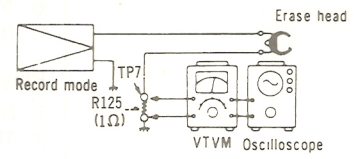
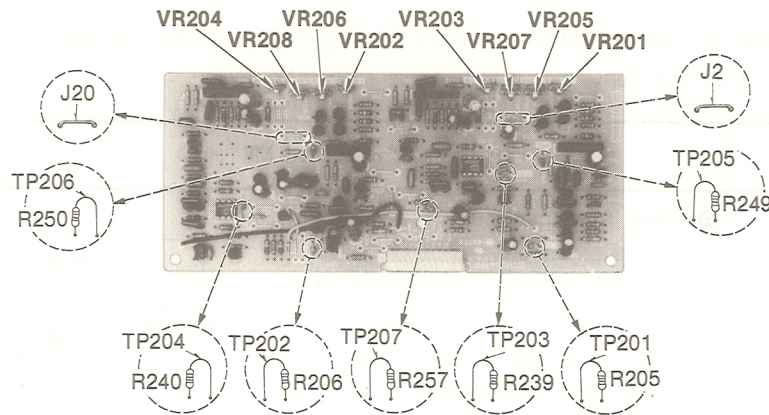

Fig. 11
Fig. 2
<p>F Erase current</p> <p>Condition:</p> <ul style="list-style-type: none"> <li>* Record mode</li> <li>* Metal tape mode</li> </ul> <p>Equipment:</p> <ul style="list-style-type: none"> <li>* VTVM</li> <li>* Oscilloscope</li> </ul>	<ol style="list-style-type: none"> <li>1. Test equipment connection is shown in fig. 11.</li> <li>2. Place UNIT into metal tape mode.</li> <li>3. Press the record and pause buttons.</li> <li>4. Read voltage on VTVM and calculate erase current by following formula:  <math display="block">\text{Erase current (A)} = \frac{\text{Voltage across both ends of R125}}{1 (\Omega)}</math> </li> </ol> <div style="border: 1px solid black; padding: 5px; margin: 10px 0;"> Standard value: 155 ± 15 mA (Metal position) </div> <p>5. If measured value is not within standard, adjust as follows.</p> <p>Adjustment</p> <ol style="list-style-type: none"> <li>1. Short the points (b) and (c) on the main circuit board diagram (see page 25).</li> <li>2. Make measurement for erase current.</li> <li>3. Make sure that the measured value is within the erase current of 140 mA to 170 mA.</li> <li>4. If measured value is not within standard, short or open connection points (b) and (c) for adjustment (see table 2).</li> </ol> <div style="border: 1px solid black; padding: 5px; margin: 10px 0;"> Reference value: around 70 mA (Normal position) around 95 mA (CrO2 position) </div>
<p>② Adjustment of VCA</p> <p>Condition:</p> <ul style="list-style-type: none"> <li>* Record/stop mode</li> <li>* Input level controls ... MAX</li> <li>* Noise reduction selector ... disc/dbx tape</li> </ul> <p>Equipment:</p> <ul style="list-style-type: none"> <li>* VTVM</li> <li>* Oscilloscope</li> <li>* Resistor (100Ω, 3.9Ω)</li> </ul>	<p>Preparation before adjustment</p> <p>1. Before adjusting VCA, from the device shown below using resistors of 100Ω and 3.9Ω. (See fig. 8).</p> <p>2. Set NR switch to dbx disc. Remove jumpers [J2 (L-CH) and J20 (R-CH)].</p> <p>3. Arrange connections referring to wire connection diagram (fig. 9 and 10), since 0V, +180mV and -180mV (DC) are applied in this order to pin 2 of IC201 (L-CH) and pin 2 of IC202 (R-CH).</p> <p>Fig. 8</p> <p>Fig. 9</p> <p>Connections when applying +180mV and 0V</p> <p>Adjust DC power supply and arrange connections so that +180mV or 0V can be applied to TP203 (L-CH) and TP204 (R-CH).</p> <p>Fig. 10</p> <p>Connections when applying -180mV</p> <p>Adjust DC power supply and arrange connections so that -180mV can be applied to TP203 (L-CH) and TP204 (R-CH).</p> <p>Adjustment procedure</p> <ol style="list-style-type: none"> <li>1. Apply 0V to pin (2) of IC201 (L-CH) and pin (2) of IC202 (R-CH), and a horizontal line will appear on the screen of the oscilloscope. Use this line as the reference line.</li> <li>2. Apply +180mV to pin (2) of IC201 (L-CH) and pin (2) of IC202 (R-CH) (See fig. 9), and check that the level is not more than 10mV from the reference line. If improper, adjust VR201 (L-CH) and VR202 (R-CH).</li> <li>3. In the same way, apply -180mV to pin (2) of IC201 (L-CH) and pin (2) of IC203 (R-CH) (See fig. 10), and check that the level is not more than 10mV from the reference line. If improper, adjust VR201 (L-CH) and VR202 (R-CH).</li> <li>4. Repeat steps 2 and 3, and adjust VRs so that the levels are within ±10mV when +180mV and -180mV are applied (fig. 11).</li> <li>5. After adjustment, connect jumpers J2 (L-CH) and J20 (R-CH) (See fig. 2).</li> </ol> <p>Fig. 11</p>